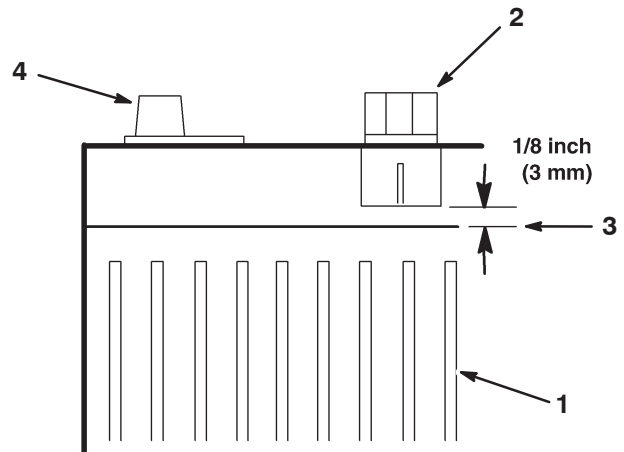

Figure 20
7. Add just enough distilled water to bring the electrolyte level to 1/8 inch (3 mm) below the bottom of each fill well (Fig. 20).